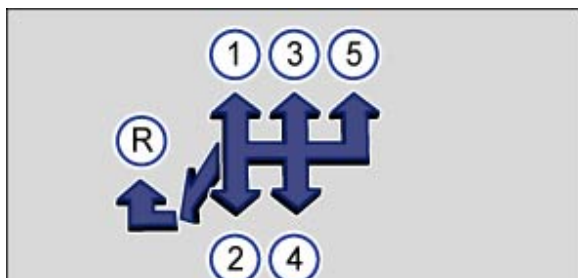
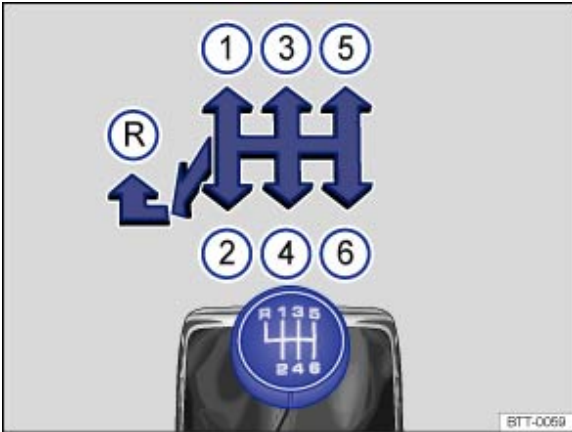

Fig. 140 Gear shift pattern of a 5-speed manual gearbox
Fig. 141 Gear shift pattern of a 6-speed manual gearbox
The positions of the individual driving gears are shown on the gearshift lever → Fig. 140 or → Fig. 141.
- Push the gearshift lever fully to the left and then to the front in the reverse gear position → Fig. 140 [®] or → Fig. 141 [®].